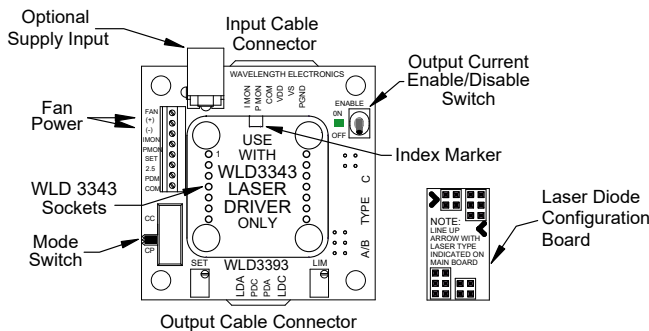

Figure 13. WLD3393 Top View
Figure 13 gives a top view of the WLD3393 Evaluation Board.
B) Configure the evaluation board for Constant Current (CC) operation using the Mode Switch.
C) Turn the SET trimpot at least twelve turns counter-clockwise (OFF). Adjust the LIM trimpot at least twelve turns clockwise (ON).
D) Apply power to the WLD3393 and enable the output current by switching the enable switch to the “ON” position. See **Figure 13** to locate the switch.
E) Adjust the SET trimpot clockwise until the voltmeter displays V_{LIMIT} calculated in **Equation (14)**. Next, turn the LIM trimpot counter-clockwise until the displayed voltage just begins to decrease. Finally, turn the SET trimpot fully counter-clockwise to zero the output current.